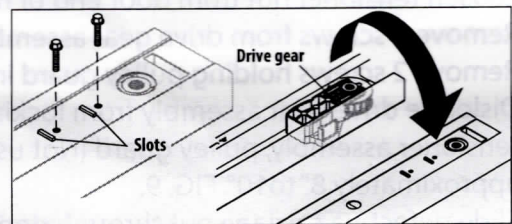
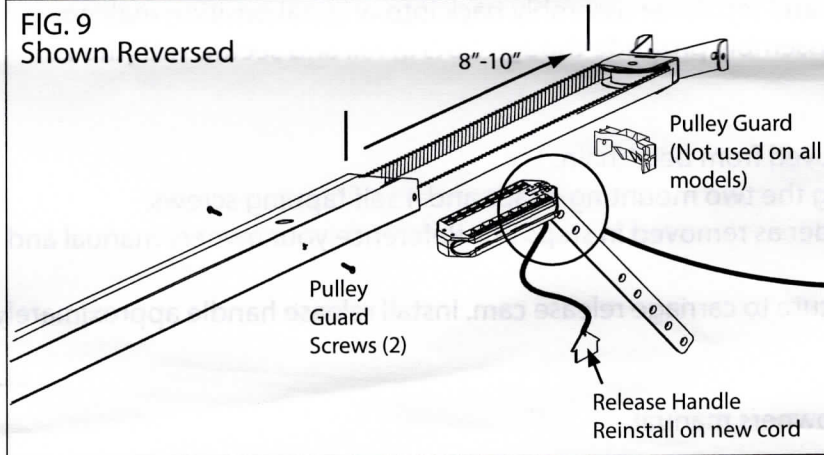

FIG. 8
FIG. 9
11. Remove 2 screws from drive gear assembly. Fig. 8.
12. Remove 2 screws holding pulley guard in place. FIG. 9. (Where applicable)
13. Dislodge drive gear assembly from locking tabs (FIG. 8) And slide towards door end of rail to feed tensioner assembly, pulley guard (Not used on all models), and belt/chain out through the end of the rail approximately 8" to 10". FIG. 9.